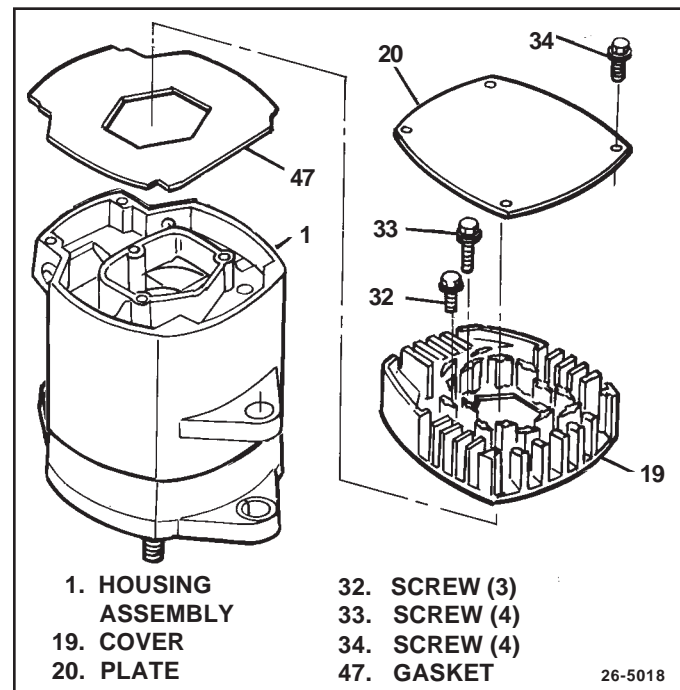

Figure 10. Removing End Plate and Cover
1. Remove rectifier end plate (20), rectifier end cover (19), and gasket (47). (See Fig. 10)